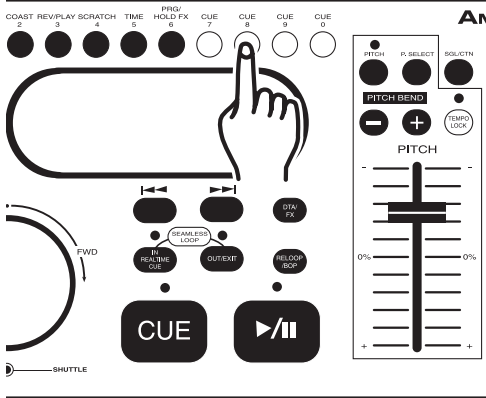

Figure 21
- 2) At this point pressing any one of the four CUE BUTTONS (6) will store your cue point into memory (Figure 21), and the yellow Cue Memory LED will shut off.